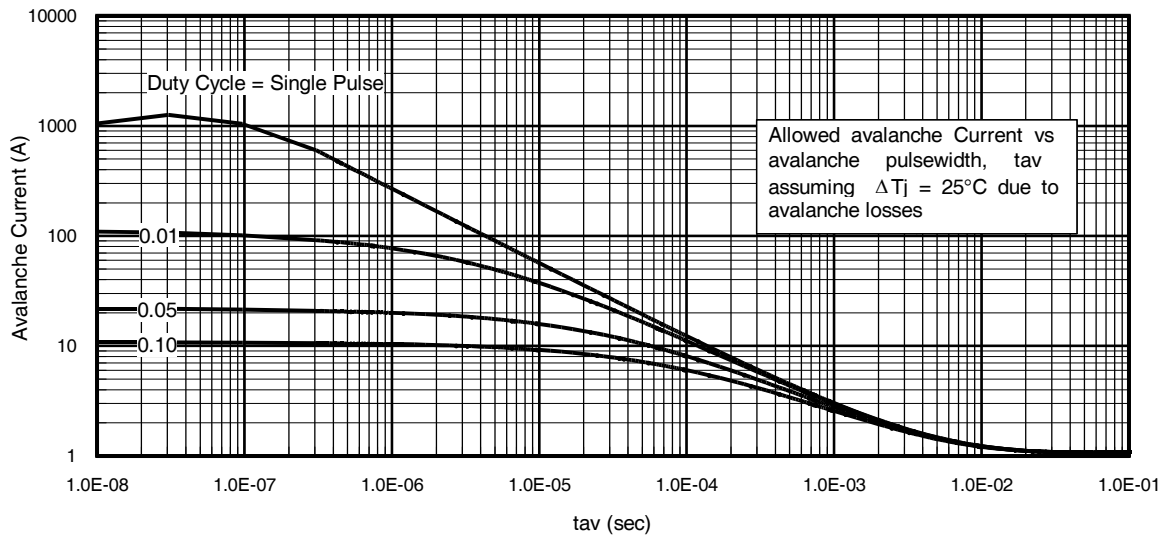

Fig 15. Typical Avalanche Current vs. Pulse width
Notes on Repetitive Avalanche Curves , Figures 15, 16:
7. ΔT = Allowable rise in junction temperature, not to exceed T_{Jmax} (assumed as 25°C in Figure 15, 16).